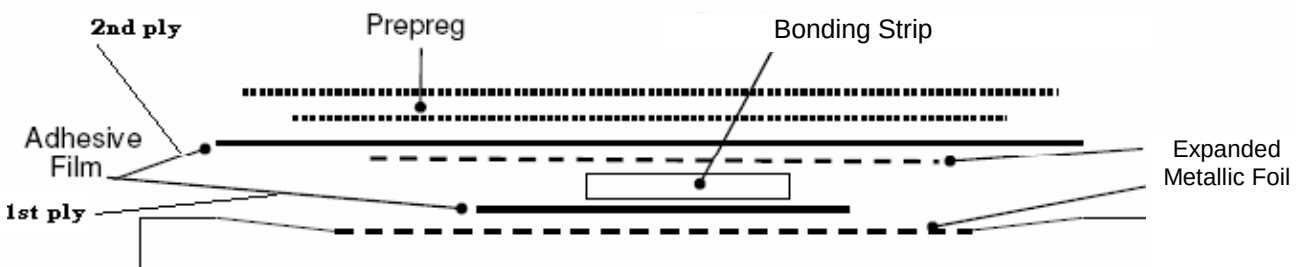

FIGURE 10: LAY-UP OF REPAIR
6.2.3.6 Place a second adhesive film ply (Table 1) over the bonding strip in the entire repair area. Refer to Figure 10.